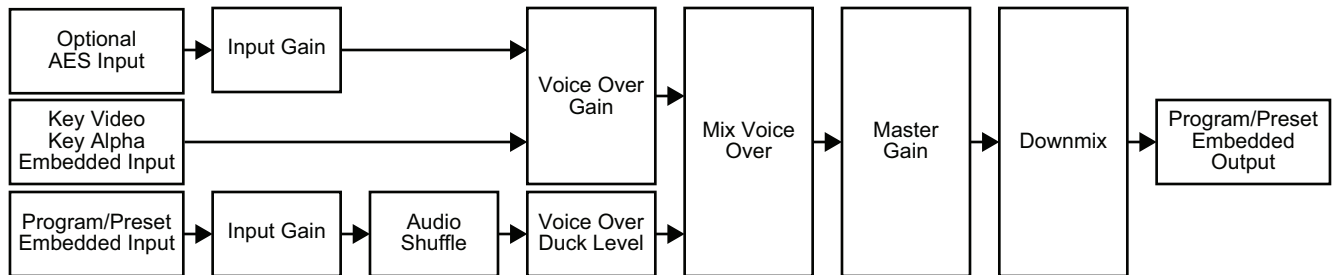

Figure 10.1 Audio Processing Workflow
**Figure 10.1** provides a simplified workflow diagram of the MC1-MK audio processing.